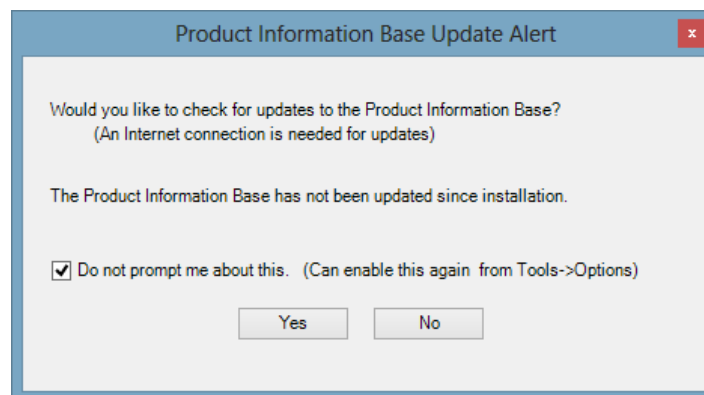

Fig 5.2.1
5.2 In fig 5.2.1, once the software started, select “Do not prompt me about this”. Then click “No”.